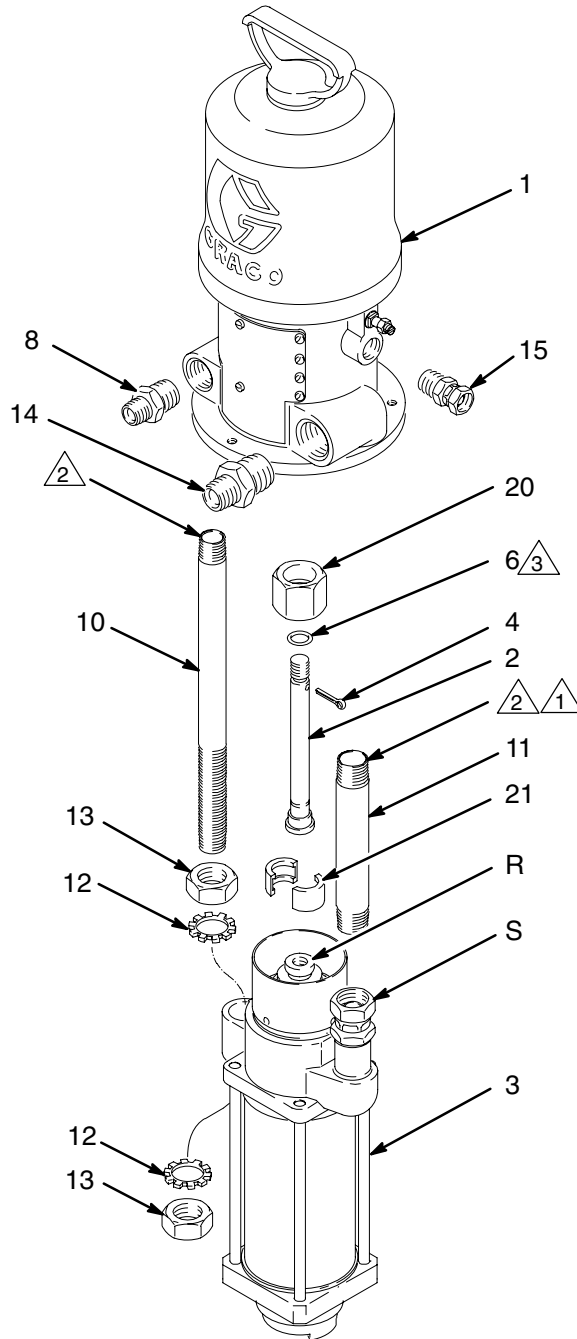

Fig. 4
3. Unscrew the coupling nut (20) from the displacement rod (R). Remove the coupling collars (21). See Fig. 4.
4. Unscrew the lower locknut (13) and lockwasher (12) from the return mounting tube (10).
5. Unscrew the swivel union (S) from the supply mounting tube (11).
1. Position the displacement pump on the mounting tubes (10, 11). Thread the upper locknut (13) onto the return mounting tube (10) a couple of turns. Tighten the swivel union (S) securely onto the supply mounting tube (11). See Fig. 4.
2. Butt the connecting rod (2) and displacement rod (R) together; if necessary, adjust the locknuts (13) on the return mounting tube (10) to align the rods.
3. Position the coupling collars (21) so they engage with the connecting rod (2) and displacement rod (R). Lower the coupling nut (20) over the coupling collars and screw it securely onto the displacement rod.
4. Tighten the locknuts (13) securely.
6. Turn on the air to the motor and run the pump slowly. Adjust the locknuts (13) on the return mounting tube (10) as necessary until the pump operates smoothly at minimum air pressure to the motor. Tighten the locknuts securely.